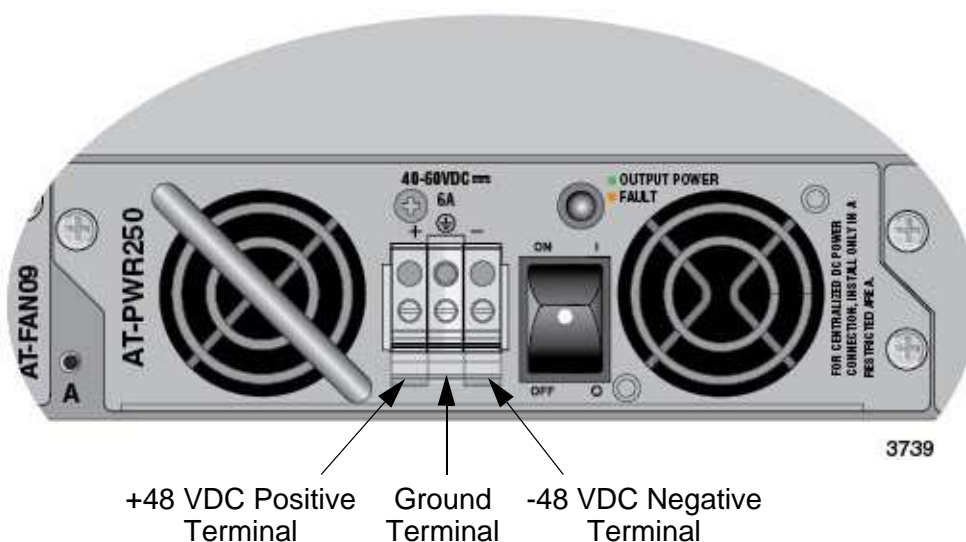

Figure 54. DC Terminal Block
3. Use the legend above the terminal block to identify the terminals. The terminals are **positive**, **power supply ground** and **negative**, from left to right, as shown in Figure 54.